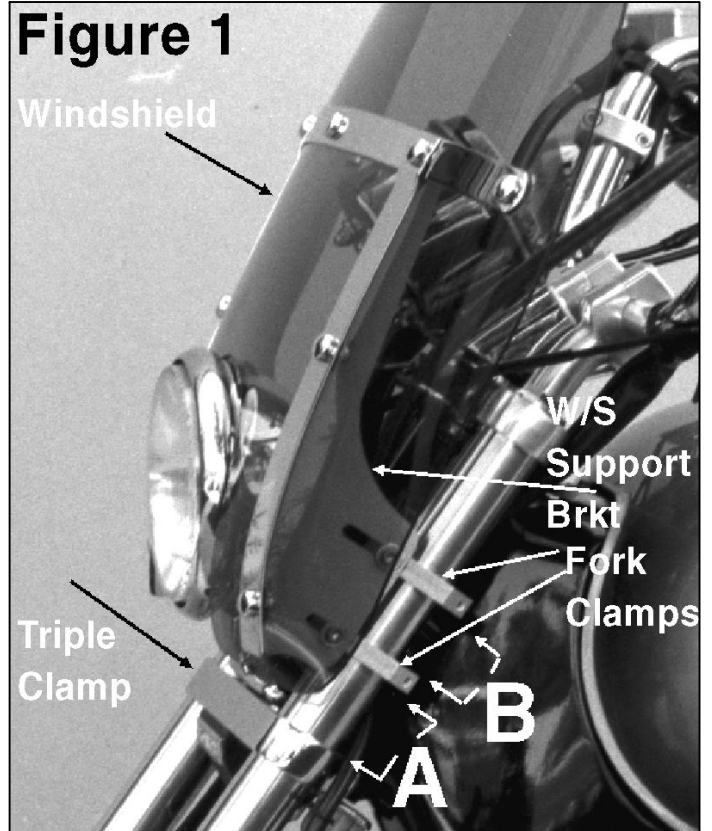

Figure 1
1. Look up your motorcycle on the enclosed application chart. It lists the measurements for installing the fork clamps, and whether your installation requires spacers. All four fork clamps are identical and will be installed onto your fork tubes. See **Figure 1**.
Loosely mount the left and right lower fork clamps with the distance between the lower fork clamp and lower triple clamp taken from measurement **A** on the application chart (Also see measurement **A** on **Figure 1**).
Loosely mount left and right upper clamps with a distance between the lower and upper taken from measurement **B** on the application chart (Also see measurement **B** on **Figure 1**).